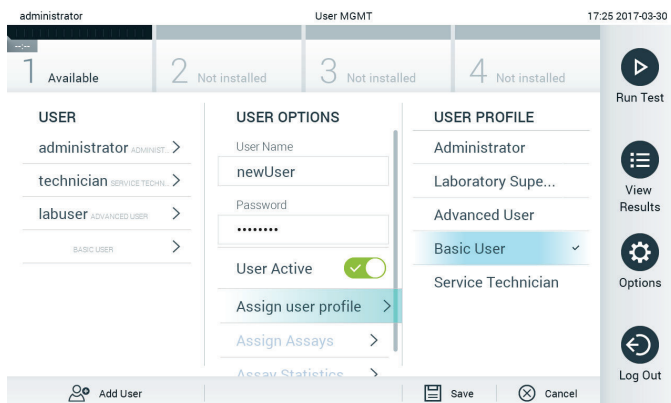

Figure 53. Assigning a user profile to a new user.
4. Press **Assign User Profile** and assign the appropriate user profile (from the list on the right of the content area) to the new user (Figure 53).